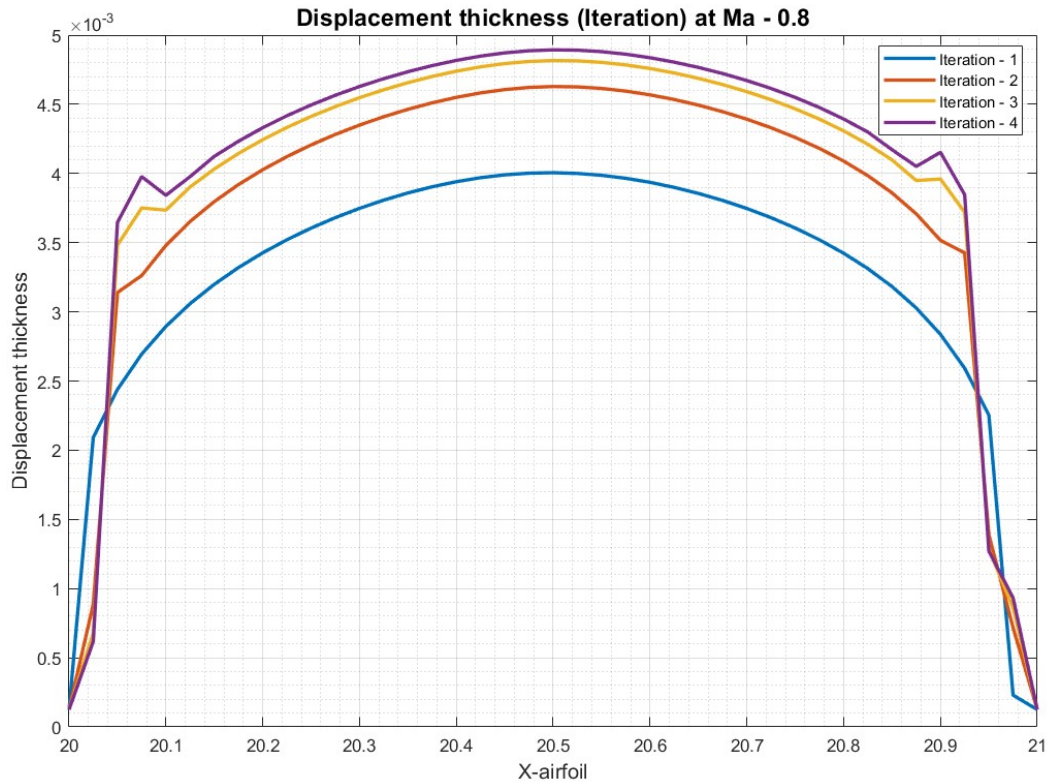

Fig:10 – Displacement thickness after each iteration at Mach no 0.8
- Fig 10 shows the Displacement thickness at each BLC coupled TSD iteration till it reach convergence. Similar to explanation in question 3b, the displacement thickness value increases first till approx 0.5 chord length and then the value decreases till the trailing edge.